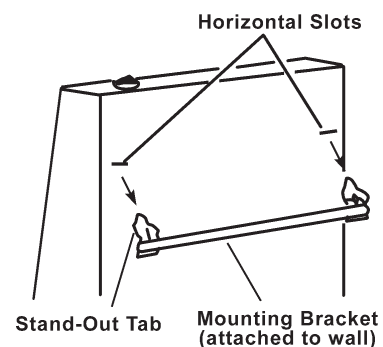

Figure 10 - Mounting Heater
1. Locate two horizontal slots on back panel of heater (see Figure 10).